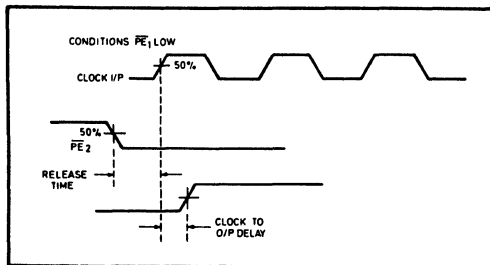

Fig. 4 Release timing diagram
- Release time is defined as the minimum time that can elapse between a H→L transition of a control input and the next L→H clock pulse transition to ensure that the ± 11 mode is forced by that clock pulse (see Fig. 4).